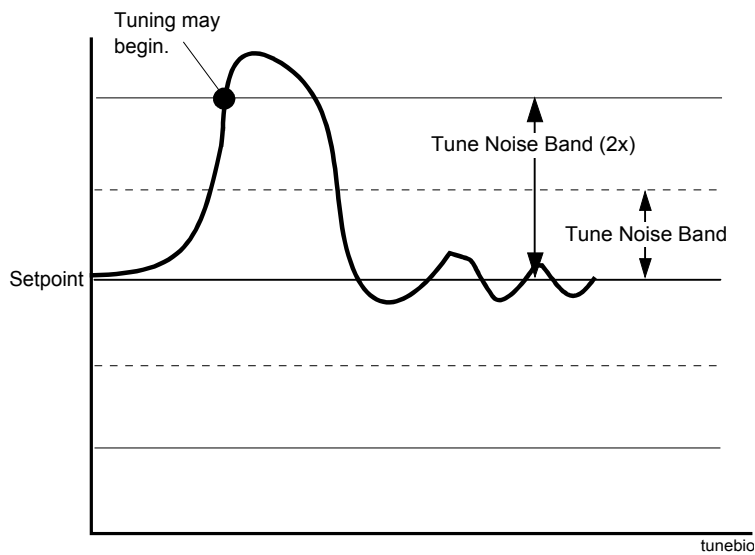

Figure 111: Describing Tune Noise Band
**Tune Noise Band** The range of values within which the feedback can vary before tuning is attempted (Figure 111). The Tune Noise Band is compared to the difference between the setpoint and the input-conditioned feedback. If the difference is greater than twice the Tune Noise Band, tuning may take place. The value of Tune Noise Band must be greater than the Deadband. Range: any positive real number.